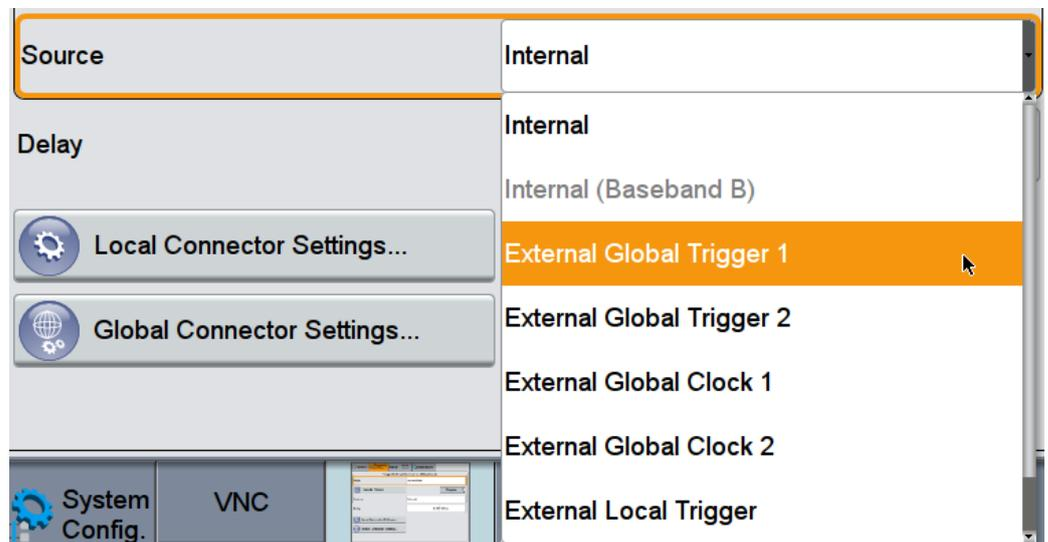

Fig. 3-4: SMW: Select trigger source. Example: "External Global Trigger 1"
- Select trigger **Source**. (Fig. 3-4)